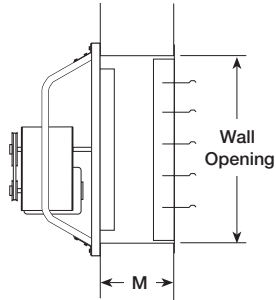

Figure 3 - Direct to Wall Installation
Figure 3 shows the recommended wall opening and the minimum distance (M) suggested between the fan and damper for direct to wall installations.